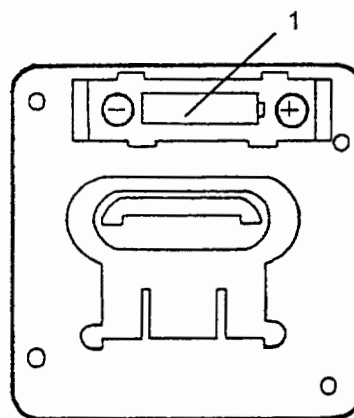

Figure 4-4 — Replacing Dual Temperature Gauge Batteries
- b. Open the battery cover (1) and replace the battery (Fig 4-4).